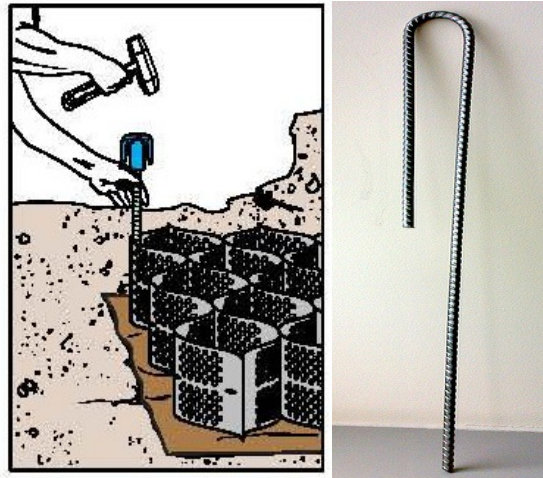

Figure 7 Stake anchorage
- **Option 1:** Expand the specified Geocells section into position and anchor with stakes. See Figure 7. When anchors are used, ensure the clip arm is hooked over the cell wall or placed through the cell-wall slot hole.